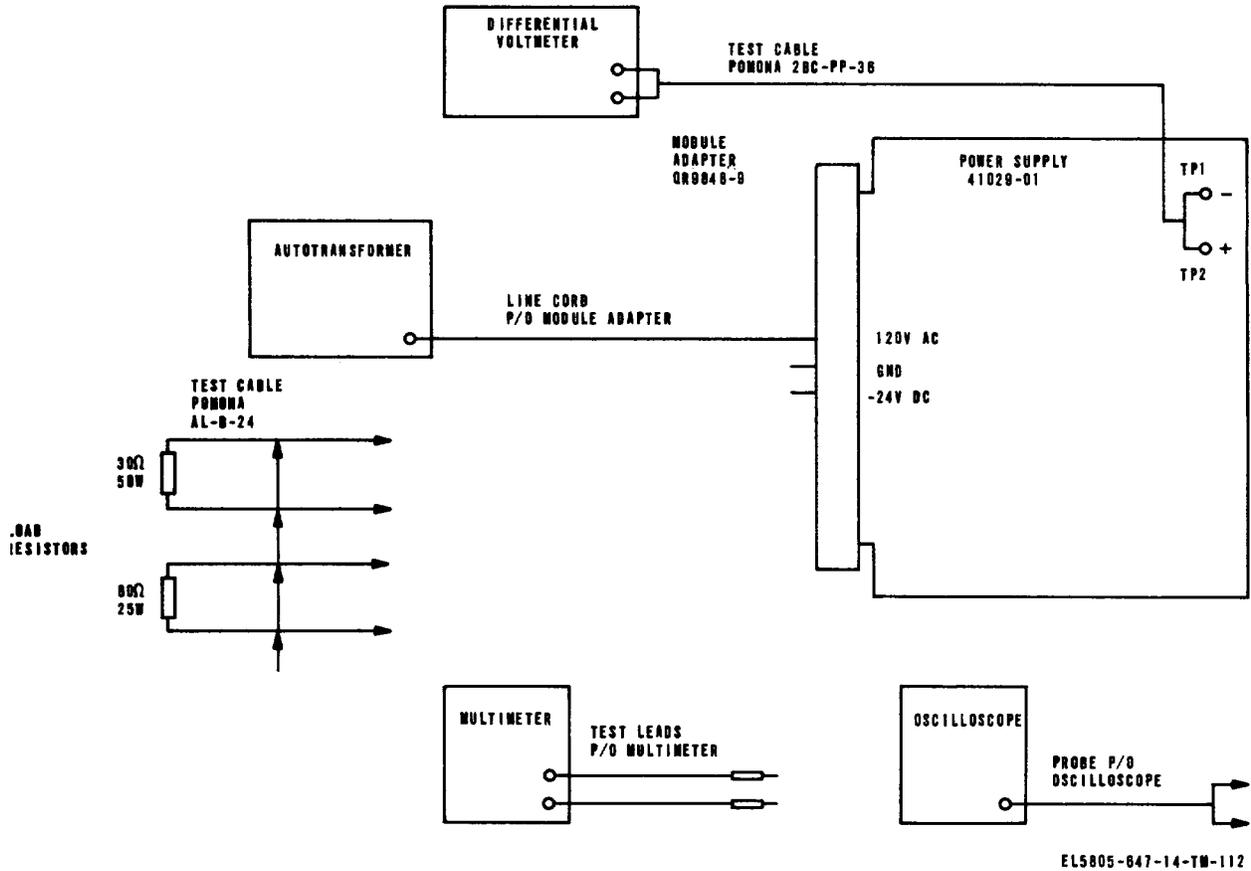

Figure 6-20. Power supply 41029-01, initial test setup diagram.
- (2) Connect the test equipment as shown in figure 6-20.
- (3) Turn on all test equipment and allow for a warmup period as recommended in the technical manual for each test equipment.
- (4) Set the POWER switch on the power supply to the off (down) position.
- (5) Adjust the autotransformer to provide 120 vac.